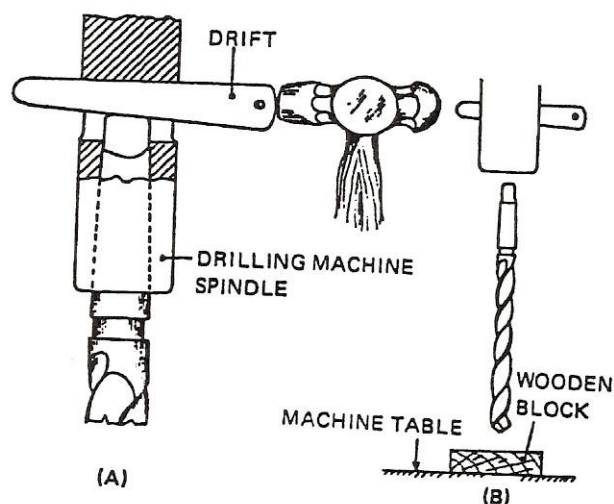

Figure 33 - Using a Drift
A drift is used for removing tools, such as drills, reamers and arbors, from the drilling machine spindle, Figure 33 (A), or from taper sleeves. A small block of wood should be placed on the machine table underneath the tool, Figure 33 (B), to prevent damage to the tool and table during the removal.